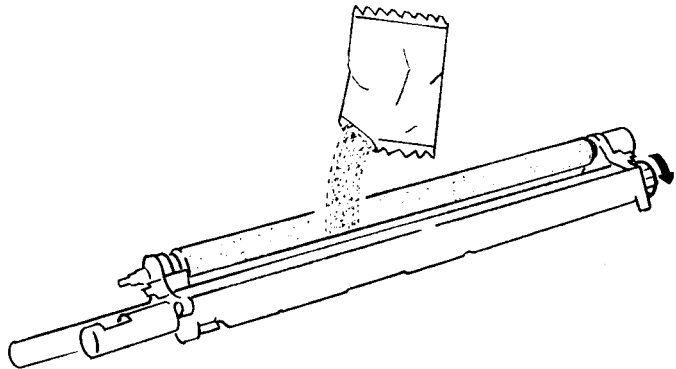

Figure 4 Installing Developer
1. Rotate Drive Gear while installing new Developer (Figure 4).